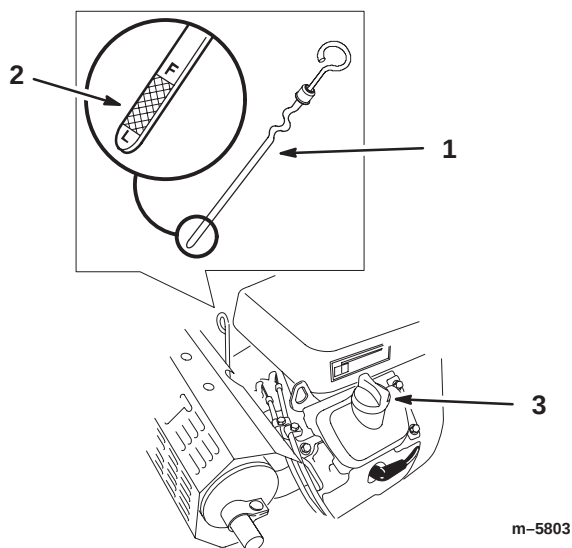

Figure 36
2. Clean around the oil dipstick (Fig. 36) so dirt cannot fall into engine.
3. Pull the oil dipstick and wipe the metal end clean (Fig. 36).
4. Slide the oil dipstick fully into the engine. Pull the dipstick out and look at the metal end (Fig. 36). If oil level is low, slowly pour only enough oil into the filler tube to raise the level to the full mark.
7. Slowly pour approximately 80% of the specified oil, on page 30, into the filler cap (Fig. 36). Now check the oil level; refer to Checking the Engine Oil Level, page 30. Slowly add additional oil to bring it to the full mark.